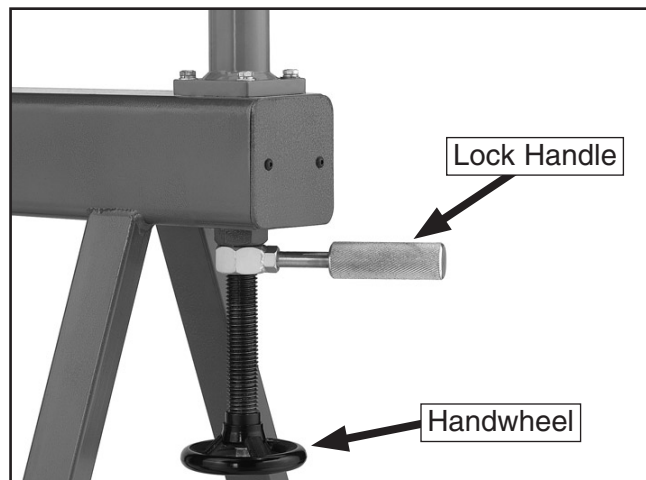

Figure 3. Lock handle and handwheel.
4. Adjust the anvil height with the handwheel, and lock the anvil in position by snugging the lock handle against the hammer frame, as shown in **Figure 3**.